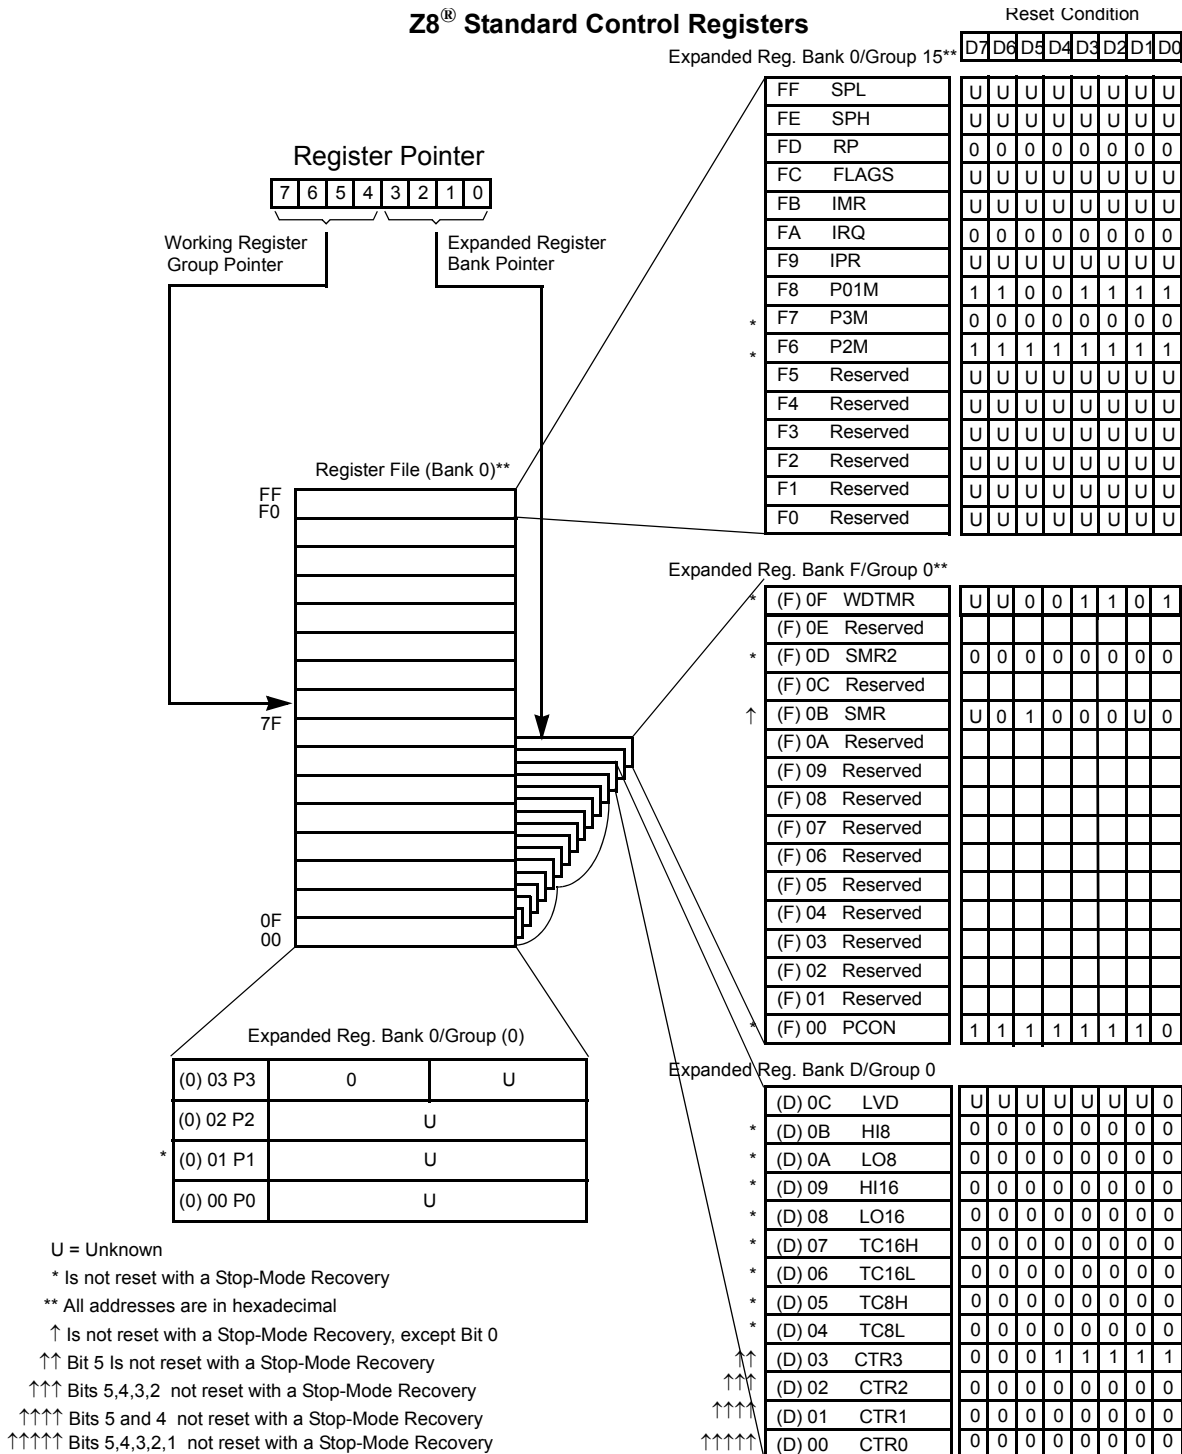

Figure 13. Expanded Register File Architecture
- **Note:** An expanded register bank is also referred to as an expanded register group (see Figure 13).
Example: Z8 GP: (See Figure 13 on page 22)